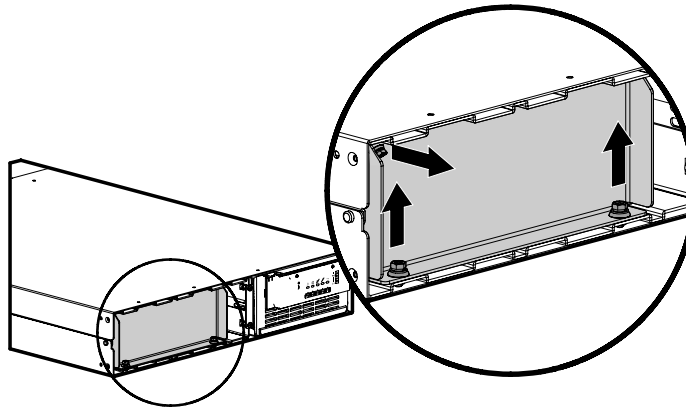

Figure 33. Removing the Battery Retaining Bracket
2. Unscrew three nuts (one in the upper left corner and two on the bottom of the bracket) and set aside the battery retaining bracket (see Figure 33).